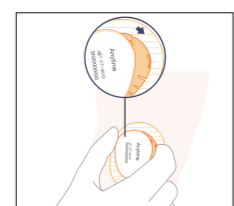

Figure 14 Sensor in place and Align the transmitter
- Attach the transmitter to the sensor (Figure 14). First, mate the transmitter slot onto the sensor block.